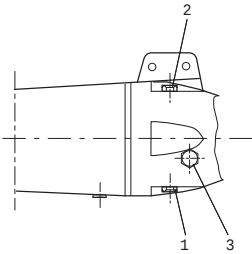

Fig. 44 Position of oil drain and oil filling screws on SMG and SFG
2. Remove the screw (2, fig. 44).
3. Remove the oil drain screw (1), and allow the oil to drain from the chamber into a glass. Leave the oil in the glass for approx. 10 minutes, and check if it contains water. If the oil contains water, replace the shaft seal.